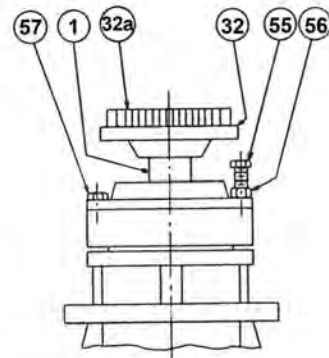

Fig. 1
2. Impeller adjustment-standard pump; for high speed pump impeller adjustment, contact factory. (**Fig.1**):